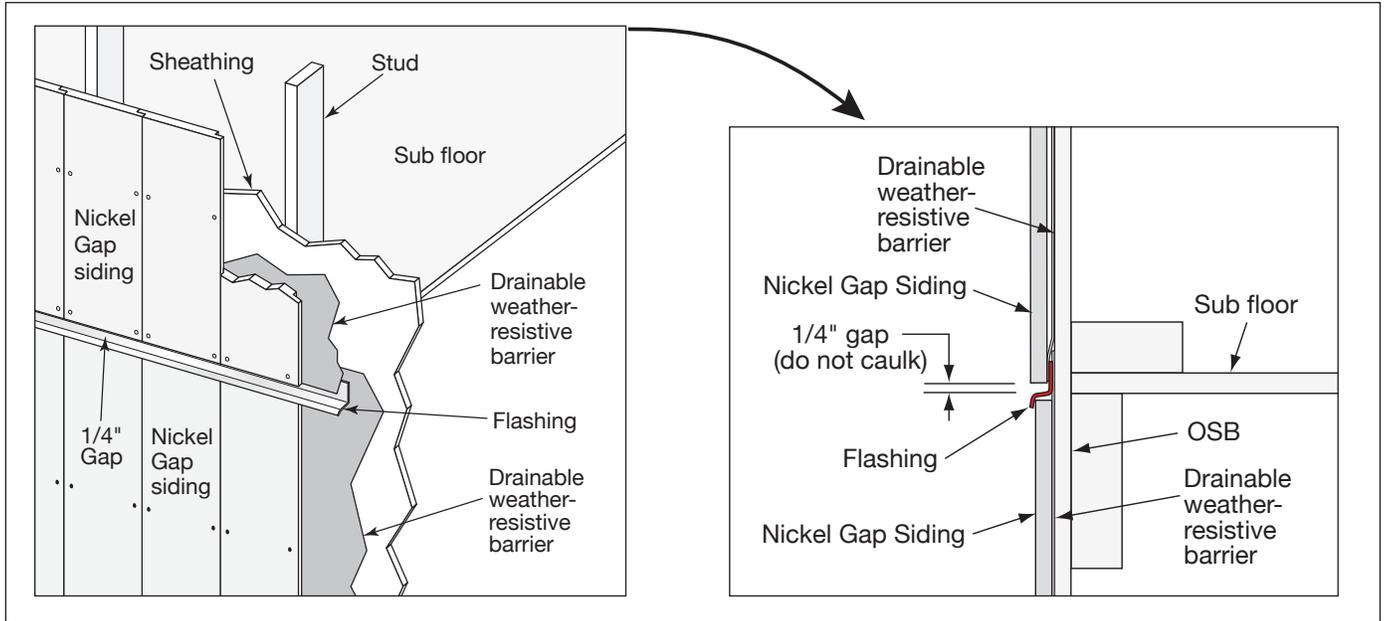

Fig. 25
- 1/4" gap is required above all horizontal flashing (**Fig. 25**)